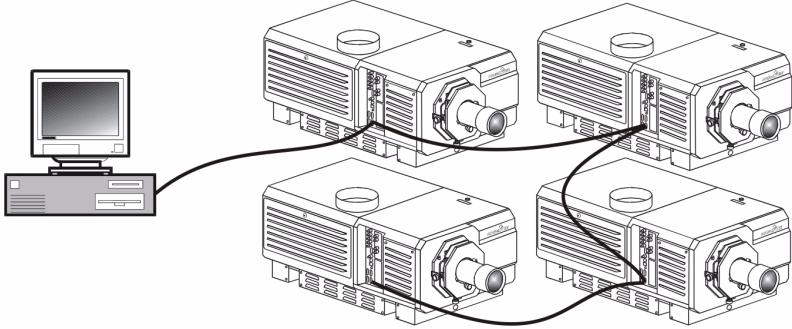

Figure 2-1 Serial Connection
- **Figure/Table References e.g., Figure 2.1, Table 4.3**